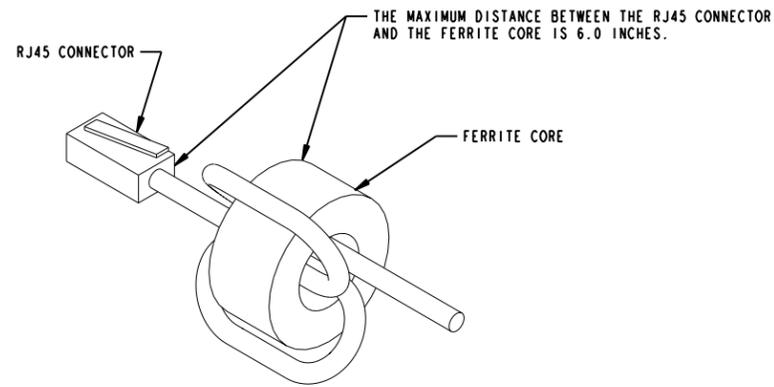

FIG. 9
1. THE FERRITE CORE PROVIDED WITH THE EI - LIU CIRCUIT PACK SHALL BE LOOPED ONTO THE RJ45 CABLE (IF PROVIDED) AS SHOWN TO SUPPRESS NOISE TRANSMISSION THROUGH THE CABLE. SEE FIG. 9.